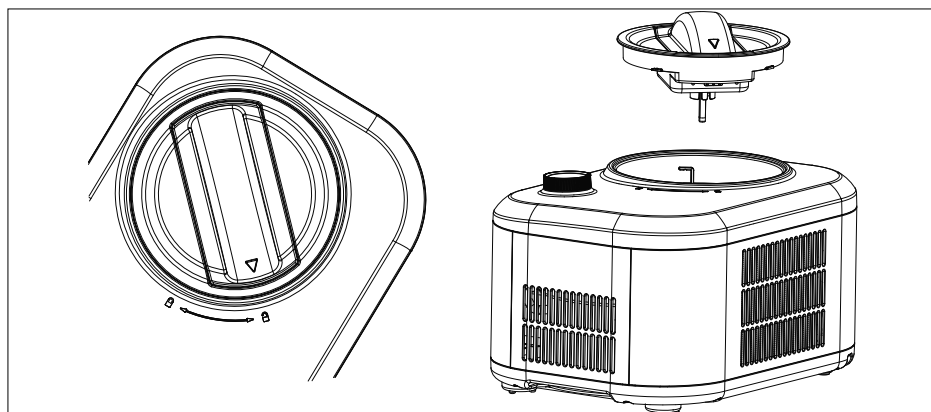

Fig. 9
- ▶ Unscrew the lid by turning it towards the open lock symbol . (see Fig. 9)